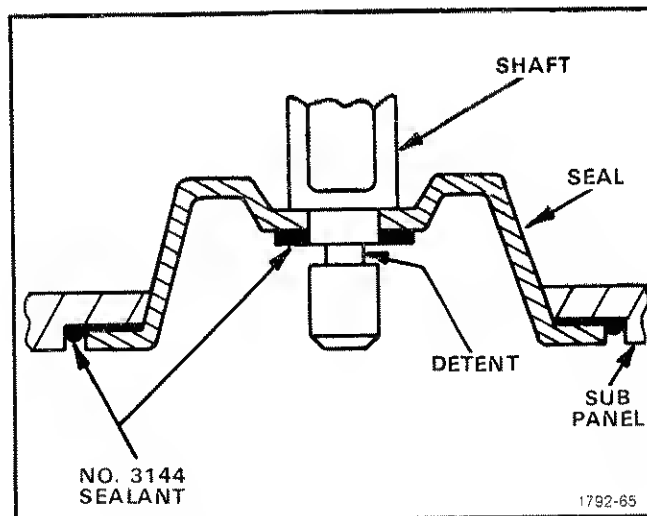

Fig. 5-11. Detail of Pushbuttons and their Shafts.
11. Install pushbuttons and their shaft assemblies (see Fig. 5-11)
2. Insert the shafts into the pushbutton seals. See Fig. 5-11.